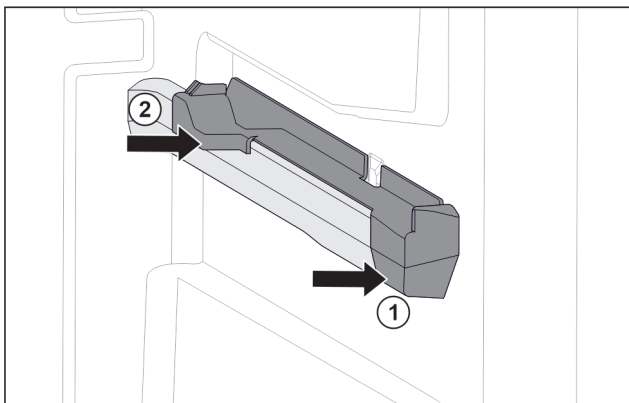

Fig. 103 Attachment on the right moulded rib
- Position attachment on moulded rib at the front. Fig. 103 (1)
- Press on attachment at the back. Fig. 103 (2)